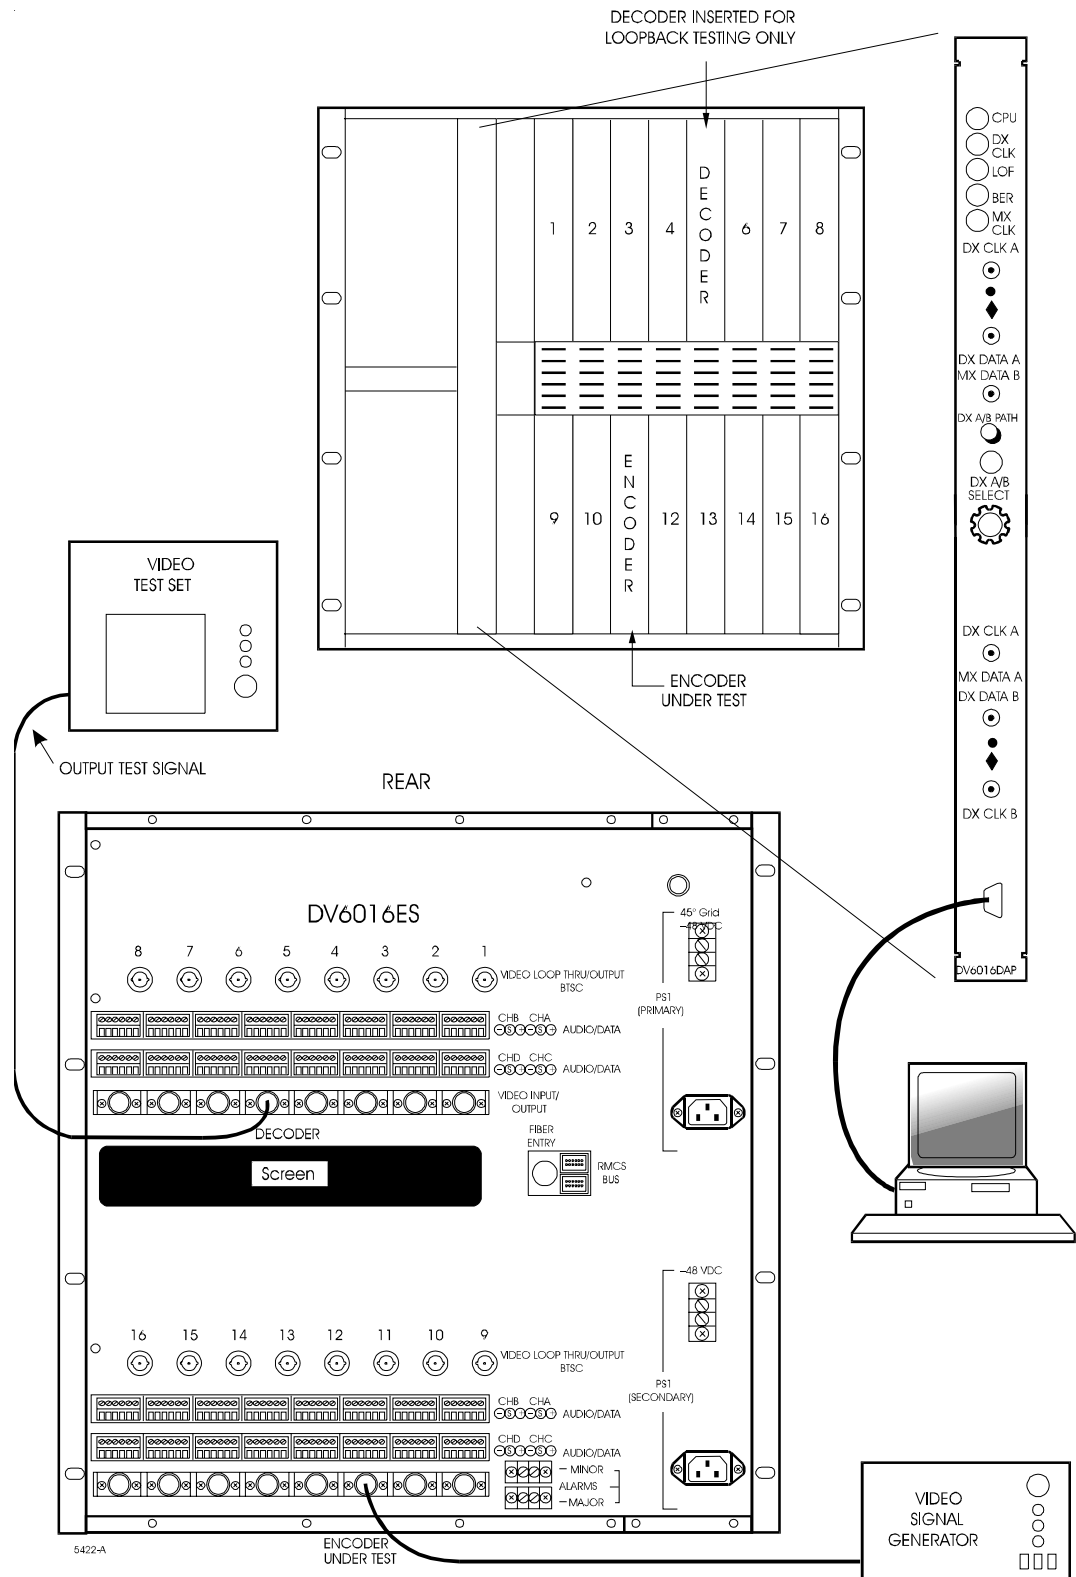

Figure DLP11-2. Equipment Set-Up for Encoder/Decoder Loopback Testing in a DV6000 Shelf Equipped with a DV-6016-DAP Drop/Add/Pass Circuit Card
9. Connect the output of a video signal generator to the Video Input/Output BNC connector for the encoder card involved in this test (see Figure DLP11-2). The Video Input/Output BNC connectors are located on the rear panel of the DV-6016-ES equipment shelf.
11. Connect the input connector of a video test set to the Video Input/Output BNC connector for the decoder involved in this test (see Figure DLP11-2). The Video Input/Output BNC" connectors are located on the rear panel of the DV-6016-ES equipment shelf.